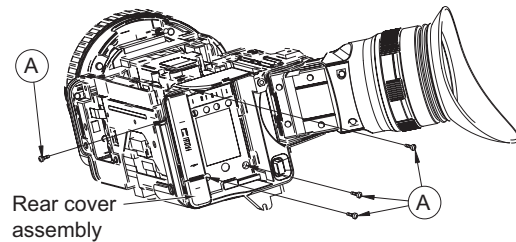
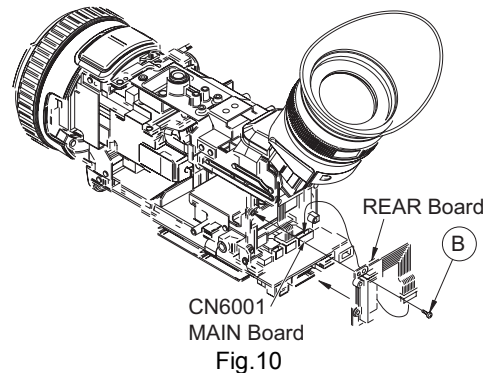
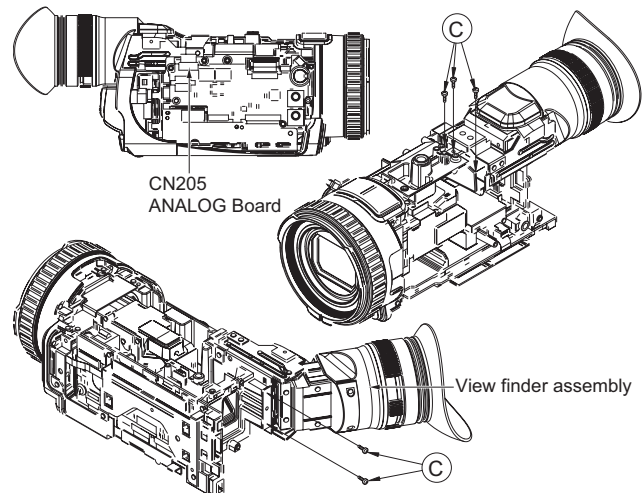

Fig.9
Fig.10
Fig.11
3.3 Removing the view finder assembly (See Figure 9, Figure 10, Figure 11)